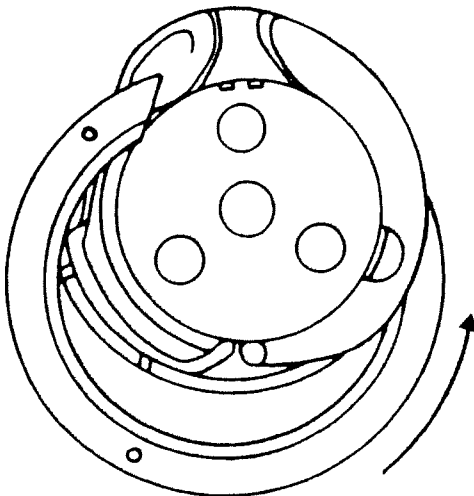

Fig. 37d
- Turn the sewing hook gib to the left into the bobbin case base (fig. 37d).